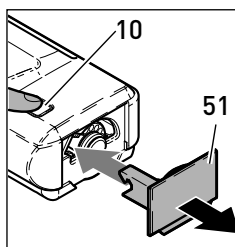
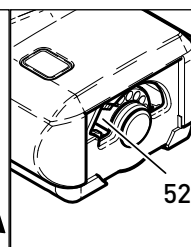

Figure 21
Figure 22
To replace the brush strip, push the brush release button (10), remove the side plate (51 - figure 21), turn the brush roller until the end of the brush strip can be accessed at the notch (52 - figure 22). Grasp the brush strip (53) from the underside of the power head and push it out through the notch far enough to be grasped and pulled out. Insert the new brush strip and press the side plate (51) back in place, making sure that the plate is firmly seated.